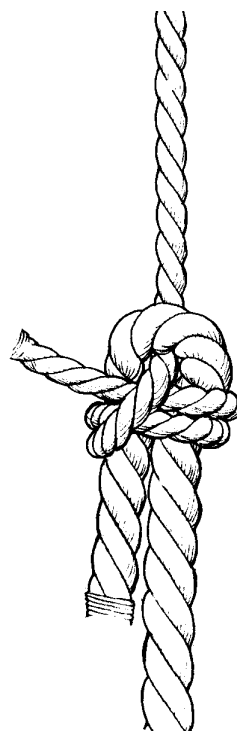

Figure 14.2 Double sheet bend
2. Study Figure 14.2 to complete this knot.